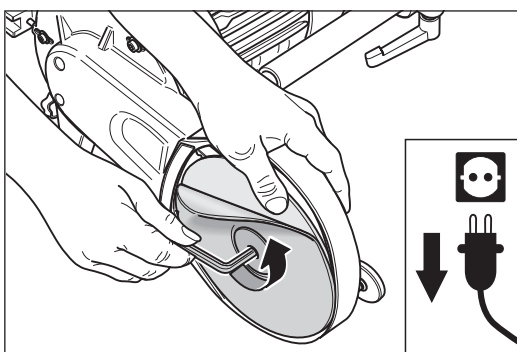

Fig. 47 Undo the sandpaper tensioning screw. To hold the sanding disc wheel, use your thumb to grab behind the sanding disc.
- 4 Use the proper Allen key and undo the sandpaper tensioning screw (normal right-hand thread). At the same time, use your other hand to hold the sanding disc wheel. If you use your thumb to grab behind the sanding disc, you will reduce the wear on the sandpaper tensioning screw (Fig. 47).